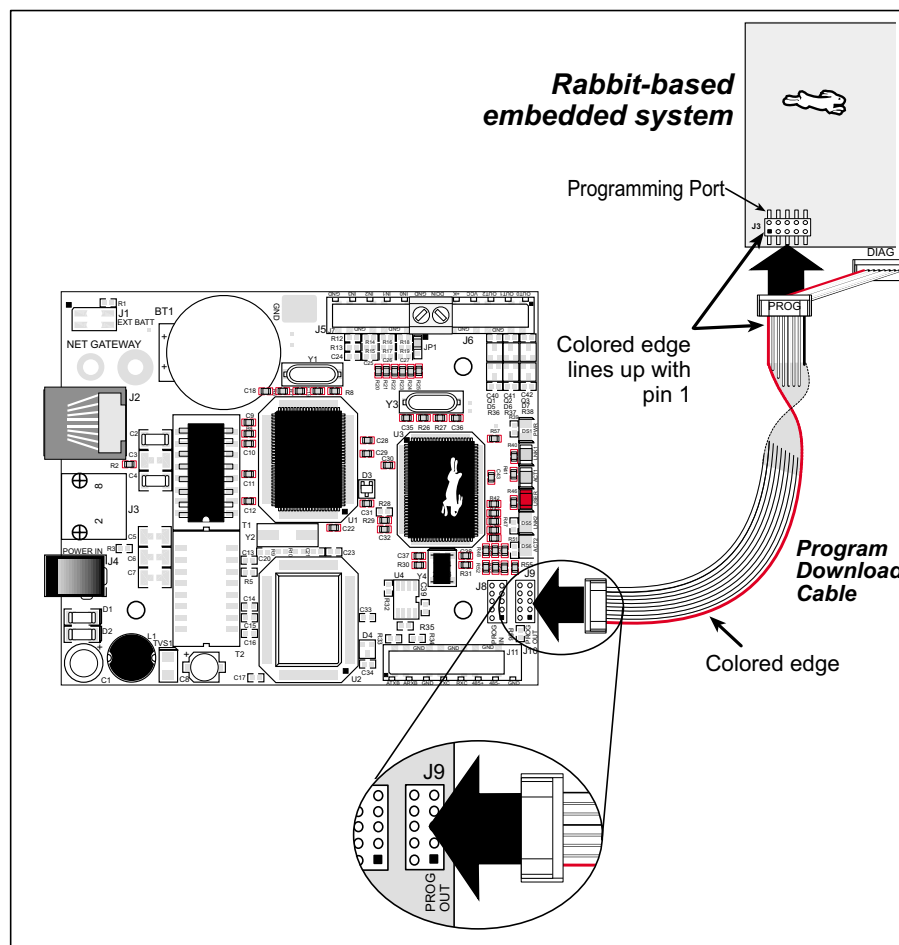

Figure 6. Connect Rabbit-Based Target System to RabbitLink
2. Connect the 10-pin **PROG** connector of the program download cable to the programming header of the Rabbit-based system you are going to interact with. Check that the colored edge of the cable lines up with pin 1 of the programming header as shown in Figure 6.
3. Connect the unmarked connector of the program download cable to header J9, which is labeled **PROG OUT**, on the RabbitLink. Check that the colored edge of the cable lines up with pin 1 of the **PROG OUT** header as shown in Figure 6.